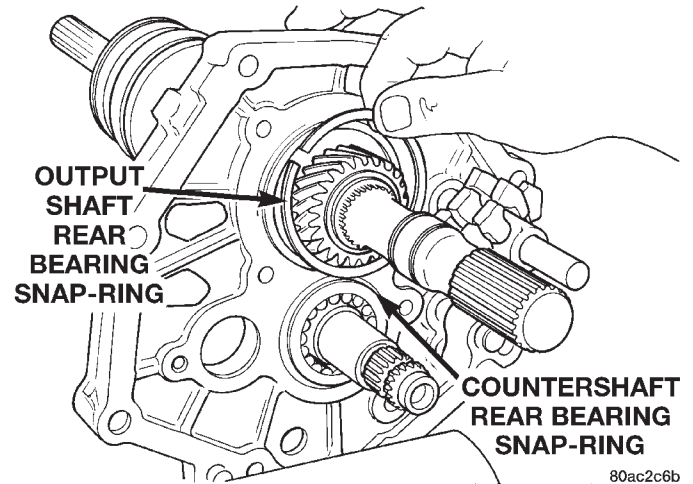
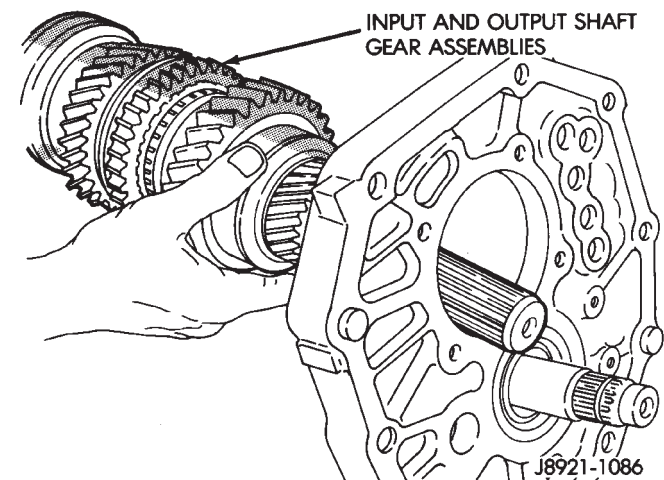

Fig. 80 Remove Output Shaft Rear Bearing Snap-ring
Fig. 81 Remove Mainshaft
(33) Remove snap-ring holding output shaft rear bearing into the intermediate plate (Fig. 80).
(34) Remove countershaft rear bearing snap-ring.
(35) With aid of an assistant, support the mainshaft and countershaft. Tap on the rear of the mainshaft and countershaft with a suitable rubber mallet. This will release the countershaft from the countershaft rear bearing and the mainshaft rear bearing from the intermediate plate. The mainshaft will release from the intermediate plate first and can be removed by moving the mainshaft rearward and upward (Fig. 81).